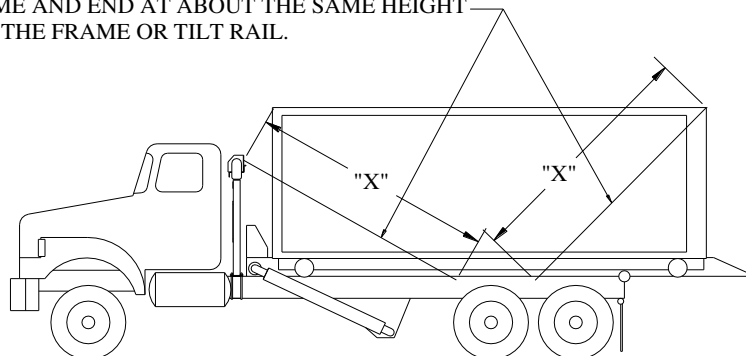

Figure 2
- 2) Measure from the back of the container to the frame using the same measurement as the first. Make a mark. Refer to Fig. 2 below.